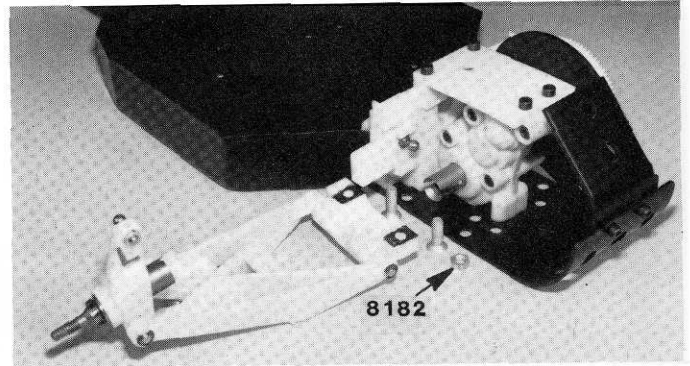

Fig. 96
□ **Figs. 96 & 97** Mount the arms onto the chassis with the 8-32 x 1/2" aluminum screws. There are two sets of screw holes in the mounts. Use the set that is marked in black in the photos, which is the set towards the rear of the car. Tighten the screw, but do not overtighten. Install a #8182 8-32 plain nut on the rear screw, as shown. Do the right hand side.